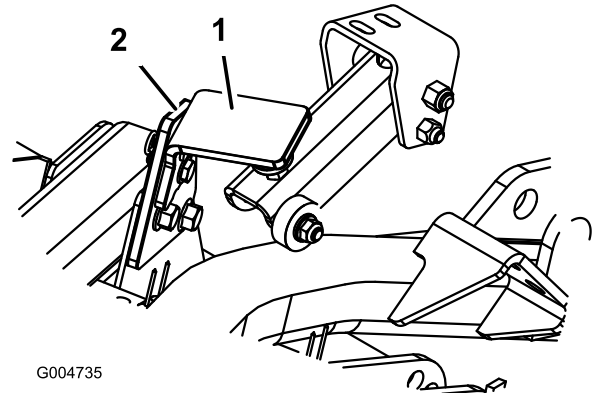

Figure 79
2. Remove the hairpin cotter and clevis pin securing the deck transport latch to the latch plate (Figure 79). Pivot latch toward rear of deck.